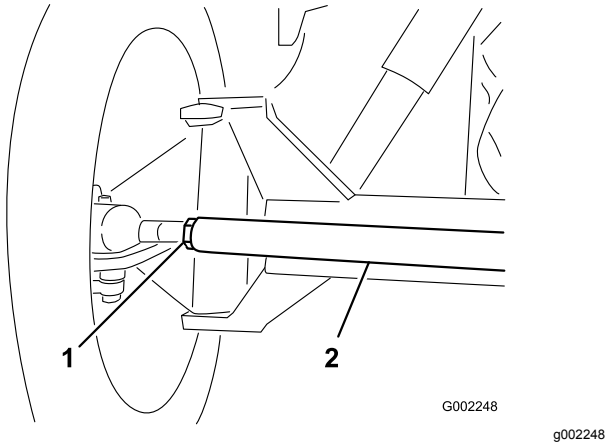

Figure 52
3. If the measurement does not fall within the specified range, loosen the jam nuts at both ends of the tie rod (Figure 52).